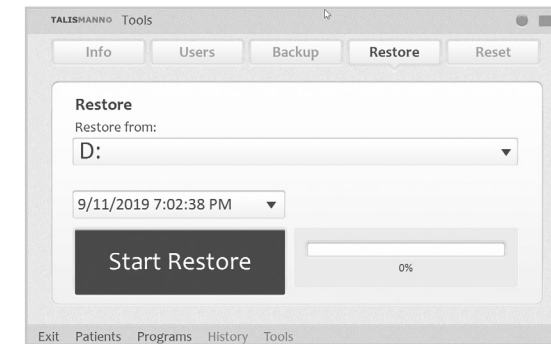

Figure 10-6: Restoring the Clinician’s Programmer database
3. From the “Restore from” drop-down list, select SD Card drive. See Figure 10-6.